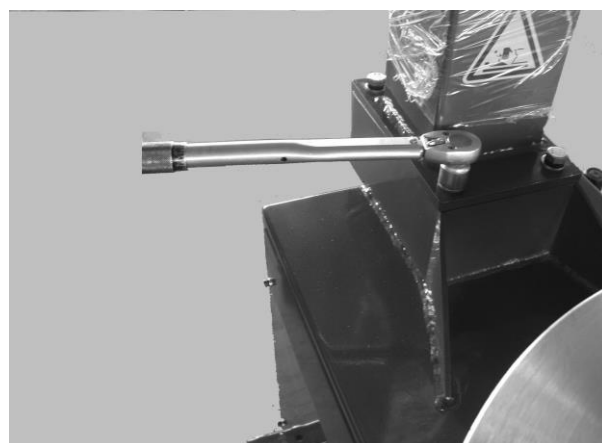

FIG 5
3.2.2 Place the column on the body. The direction of the warning label is forwards. Make the holes on the column base plate align to thread holes on the body. Once again assemble the removed the bolt (3.2.1), elastic washer and plate washer and plate washer removed in 3.2.1 The torque is 70 N·M (FIG5) Use torsion wrench to tight.